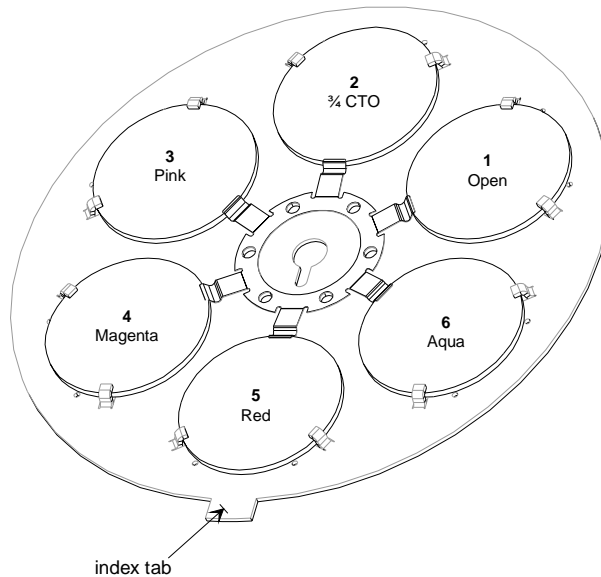

Figure B.5. Color Wheel and Factory Index Positions
10. Take special note of the index positions on the color wheel. Refer to Figure B.5.